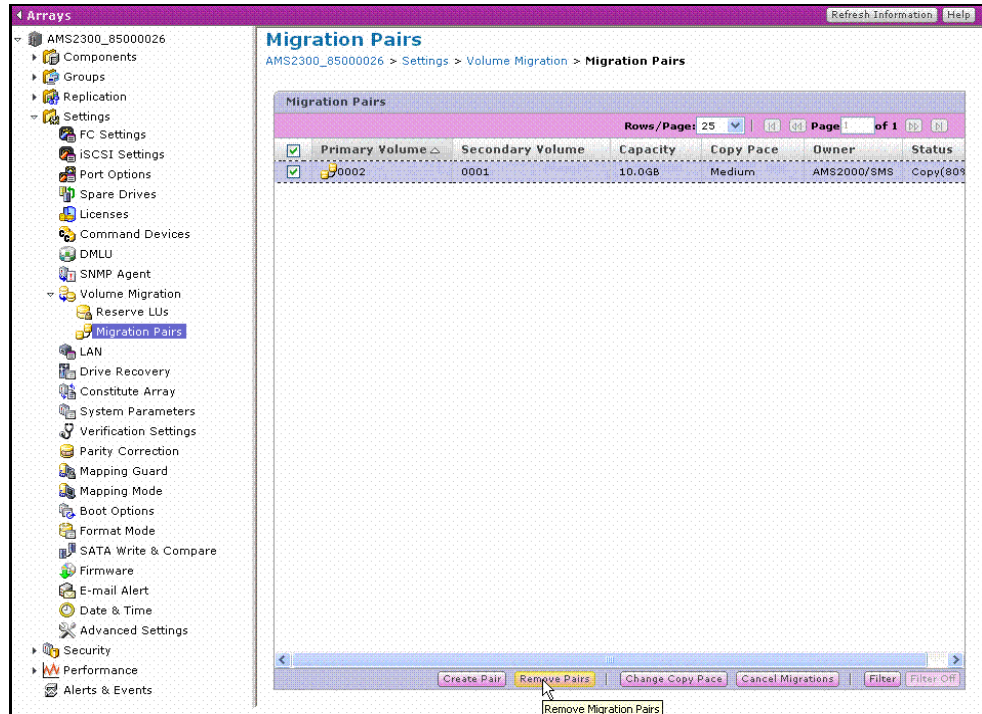

Figure 11-21: Pair Splitting
6. Select the migration pair to split, and click **Split** as shown in Figure 11-21.